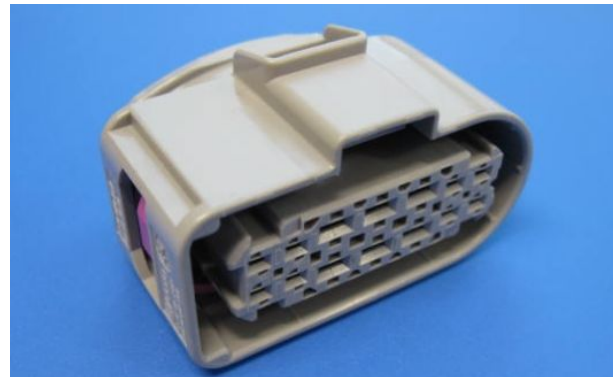

Figure 2. Gray T14 connector
1. Use VAS 1978 B to remove the single wire seal of pin 1 on connector T14 on the vehicle end (connector part, part number 5Q0 973 737) (Figure 2).